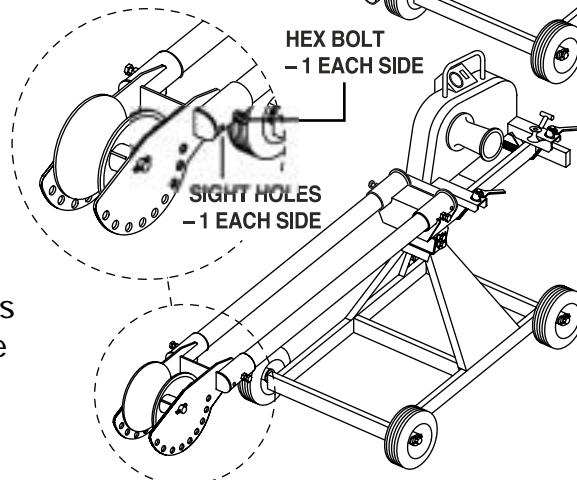

figure 17b
2. Slide the nose unit onto the ends of the 4' boom tubes. Check the sight holes to insure the boom tubes are completely inserted and tighten the hex bolts on each side of the nose unit. (*See Figure 17b.*)